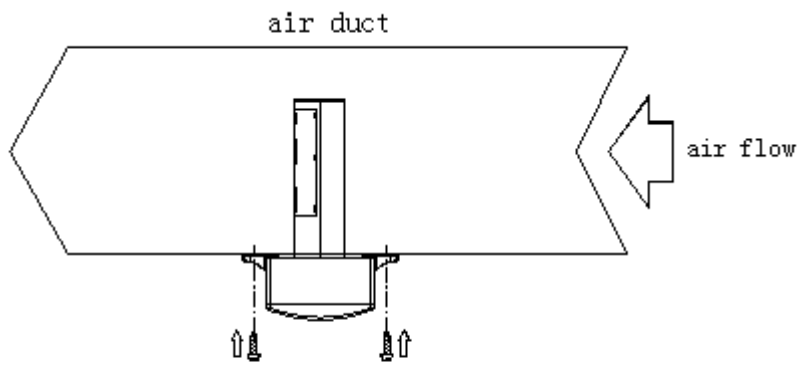

Fig.4
- ◆ Place the probe of the transmitter into air duct. Please note the direction of the filter and the air flow is opposite. (see fig.4).